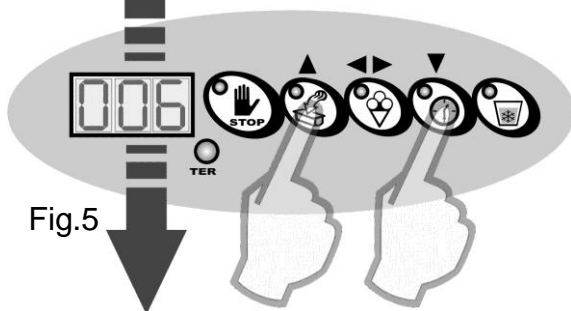

Fig.5
- The LEDs of the UP, Confirm and DOWN keys light up and the numbers relative to the time setting to be configured appear on the display, expressed by a numerical value between 1' and 10'. Press the UP and DOWN keys to increase or decrease the value. High processing times correspond to higher consistencies, low times correspond to lower consistencies (fig. 5).